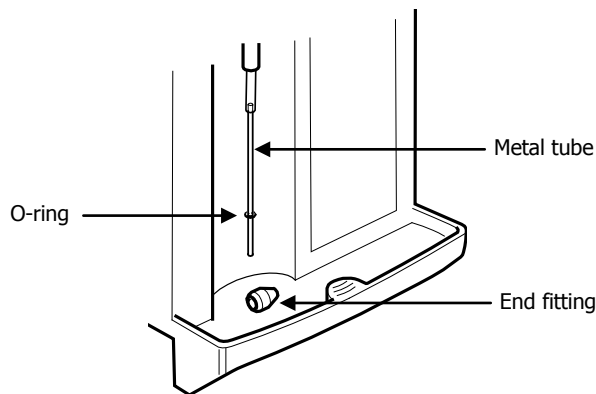

Figure 24 Removing the standard fittings
2. Remove the end fitting from the probe and pull on the metal tube until the connection with the plastic tube is visible, as shown in Figure 24.